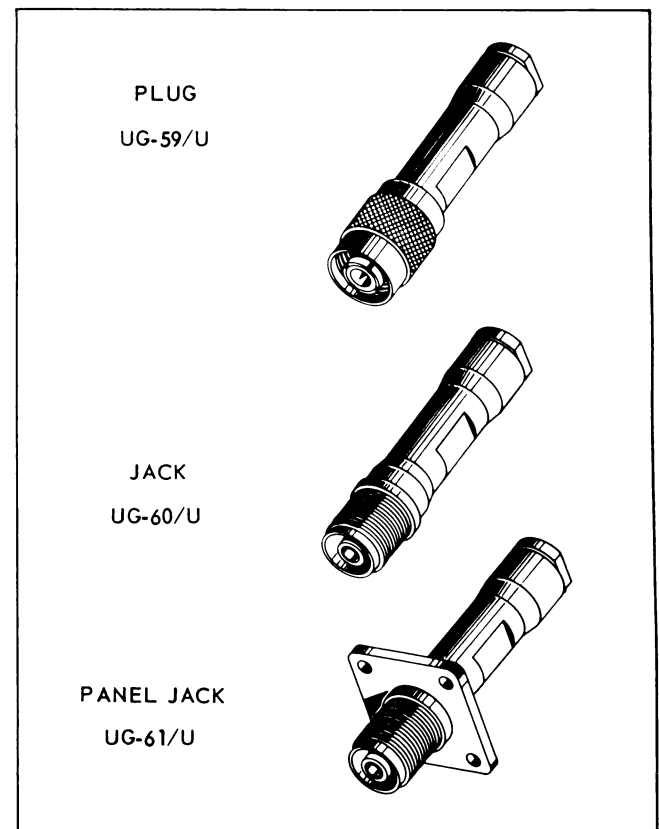

Figure 4-2. Typical HN Connectors
b. HN Series. See Figure 4-2. A high voltage (up to 5,000 volts), threaded coupling connector used with medium size rf cables.